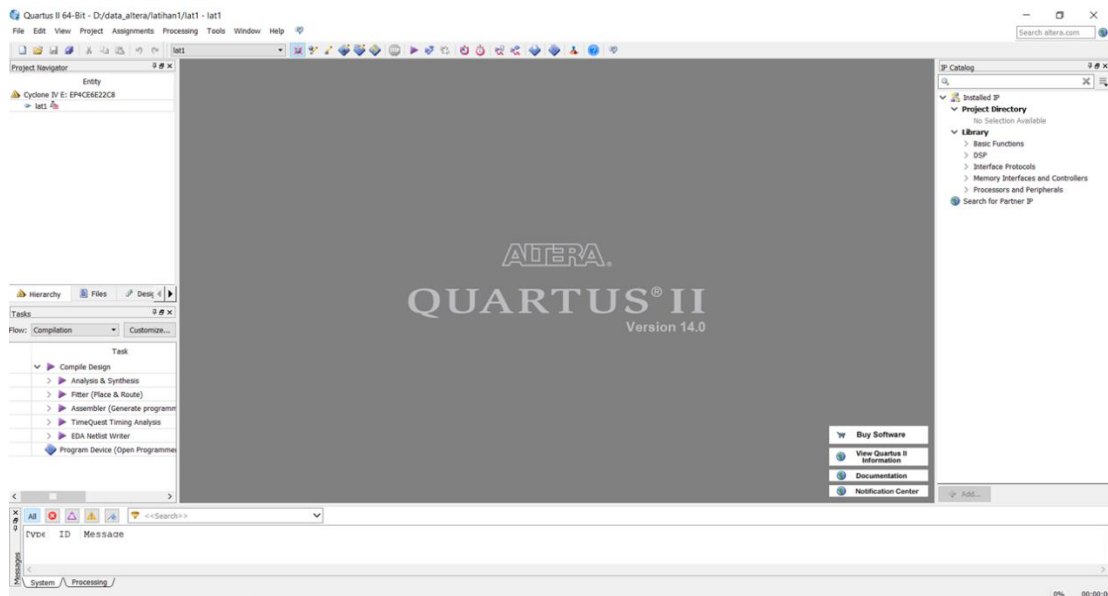

Figure 8. Main layer view after the new project creation process.
6. After the new project creation process, the display on the main screen will change slightly as shown in Figure 8.